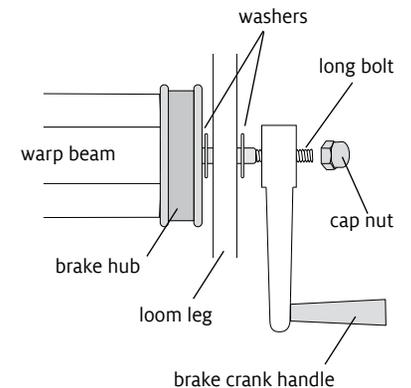

FIGURE 3
**1.** Place a washer on the long bolt on the brake side as well as on the pin on the other end of the warp beam. First insert the brake hub end of the warp beam into the loom leg. Spread apart the loom leg and insert the pin end of the beam in the other side. Make sure there is a washer between the beam and leg on both ends of the beam. (See figure 3 for hub side beam installation.)